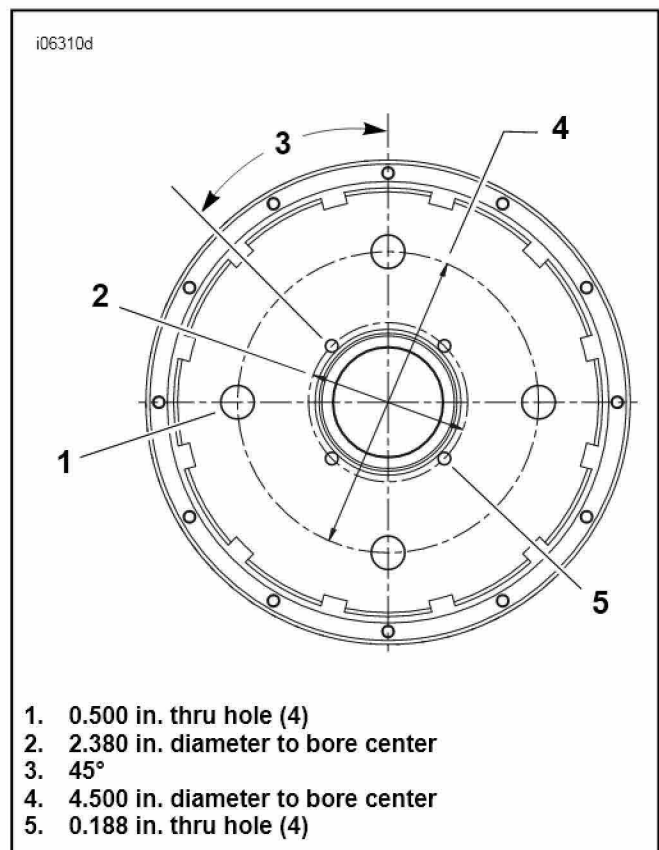

Figure 1. Drill Hole Locations
See Figure 1. In the face of the clutch shell, drill 4 equally spaced 0.500 in. holes (1) on a 4.500 in. diameter (4) to the bore center.